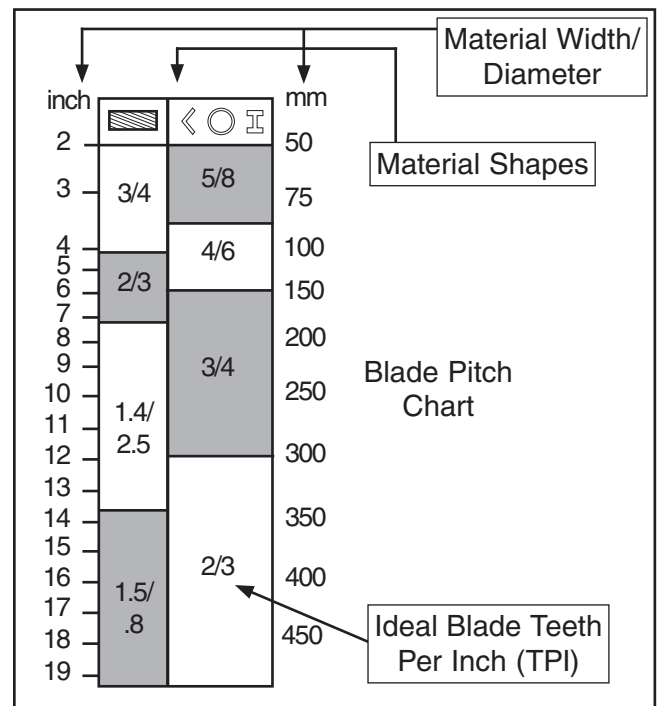

Figure 35. General guidelines for blade selection and speed chart.
2. Refer to the "Material Width/Diameter" row of the blade selection chart in **Figure 35**, and read across to find the workpiece thickness you need to cut.